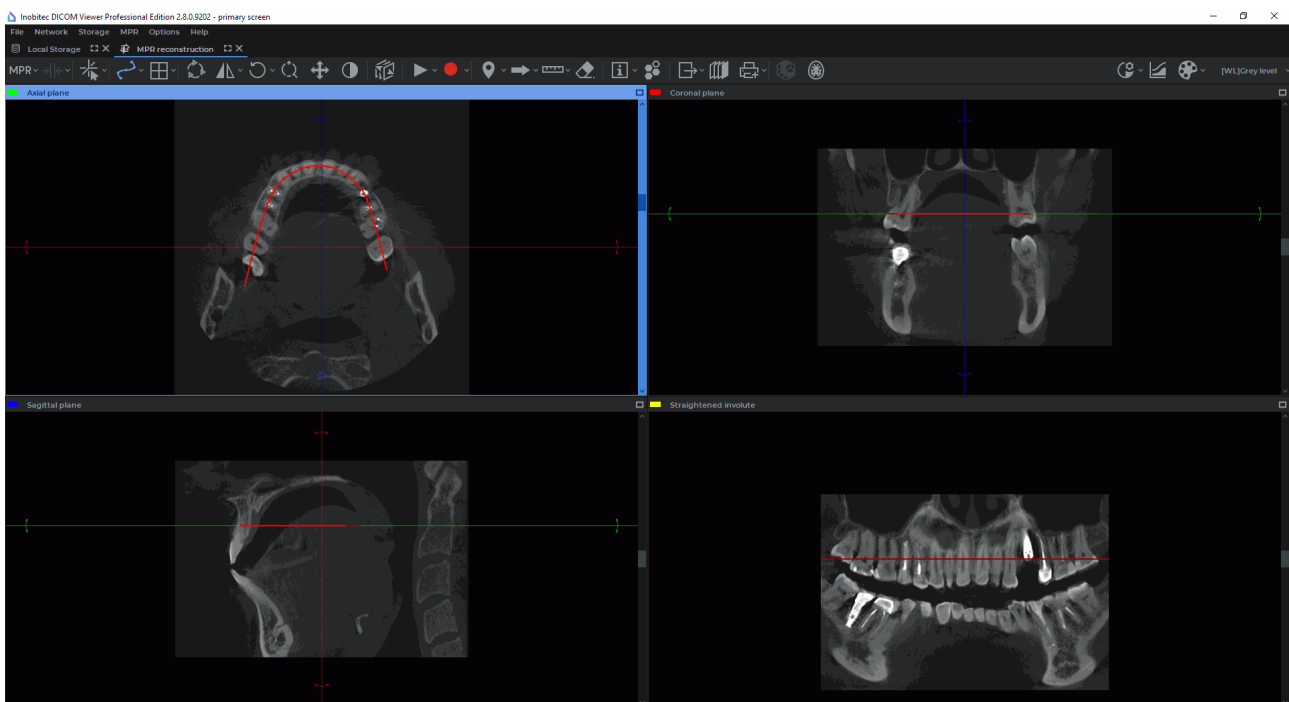

Figure 5.6: Reconstruction by a curve
7. Fix the last point by left-clicking the mouse twice. While building the curve, the current section will be displayed in the bottom right-hand window. The other windows will display the projections of the curve on the corresponding planes (Fig. 5.6).